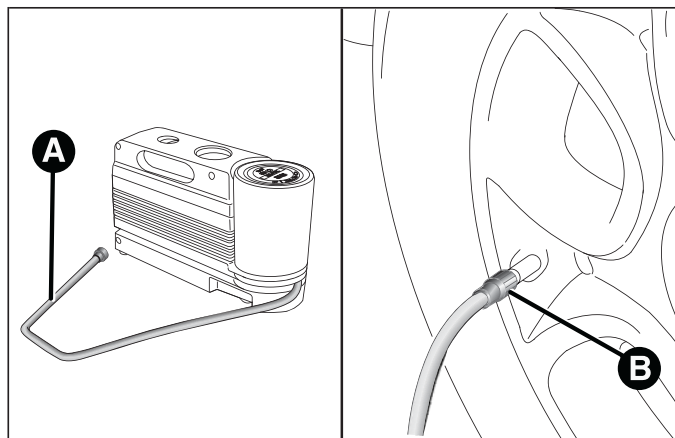

fig. 120
- ☐ **Pull up the handbrake.** Unscrew the tyre valve cap, take out the filler hose A fig. 120 and tighten the ring nut B on the tyre valve;